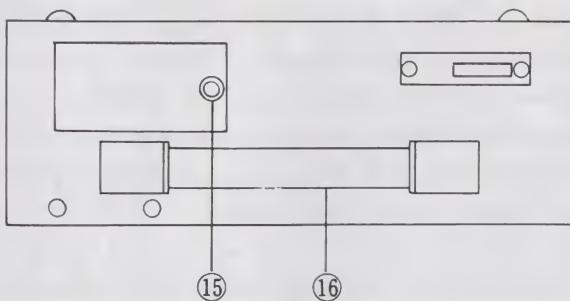

Fig. 1-2 Rear side of case.
- ⑤ RANGE MULTIPLIER switches: For selecting the ranges of components under measurement.
- ⑥ SELECTOR switch: To be set at R, C, or L (resistance, capacitance, or inductance, respectively) depending on the component to be measured.
- ⑦ NULL indicator: 10-0-10 scale used for DC resistance measurements and 0-10 scale (at right of 0) for capacitance and inductance measurements.
- ⑧ Mechanical zero adjust for NULL indicator.
- ⑨ D. Q dial: With two scales, outer for dissipation factor, D, and inner for R_E (equivalent series resistance) calibrated for values at 1kHz. But actual equivalent series resistance must be calculated through 2.5 or 2.6 on page 10 and page 11.
- ⑩ $\times 1 - \times 10$ switch: Selects the multiplier for the D and R_E readings on the D, Q dial.
- ⑪ SOURCE switch: Selects the internal bridge operating source, DC for DC resistance measurements and AC at 1kHz for resistance, capacitance and inductance measurements.
- ⑫ RED HI
⑬ BLUE EXT. +DC) For connections to the unknown component under measurement; both are "floating" terminals from ground.
- ⑭ BLACK terminal: For grounding to the case.
B. Rear Side of Case, Fig. 1-2